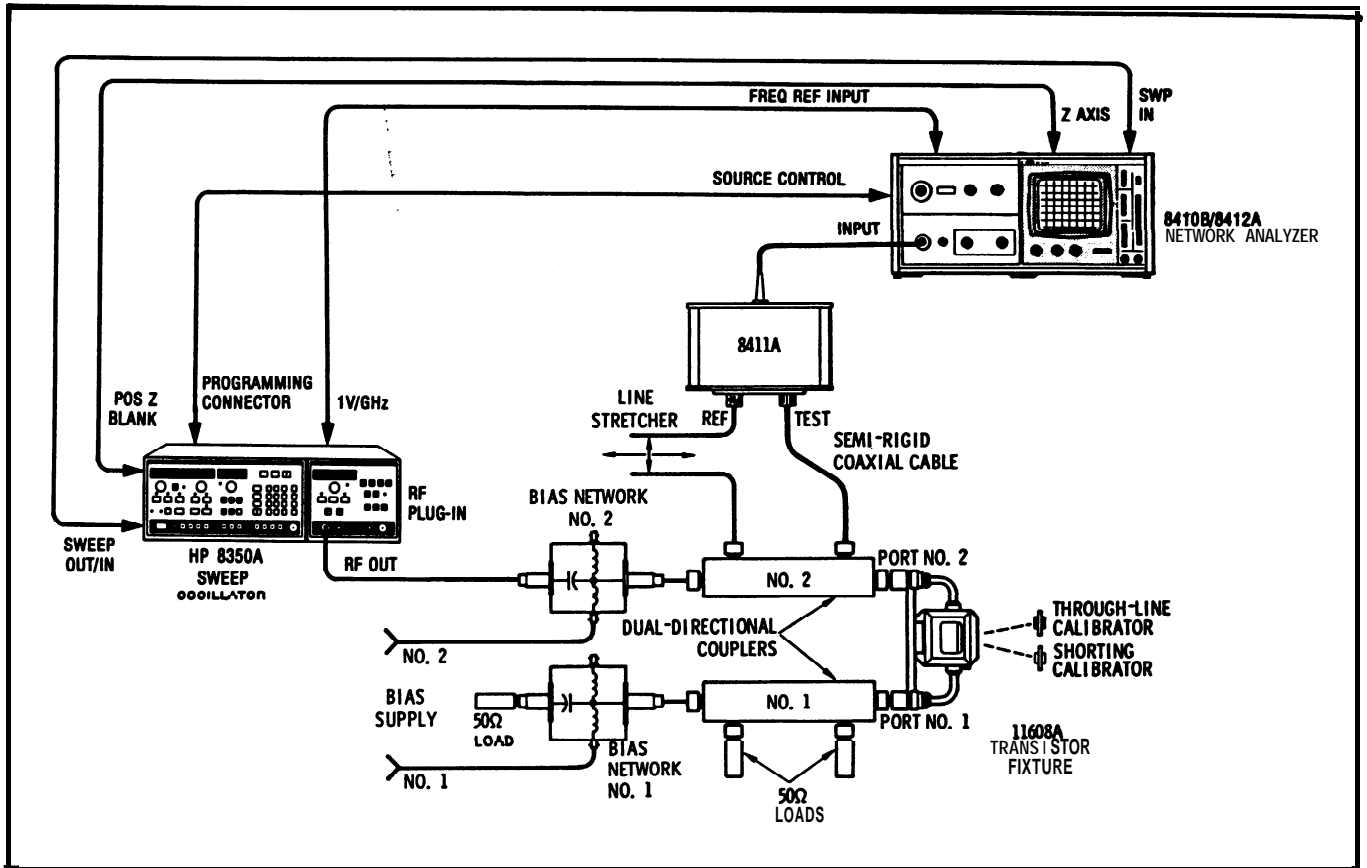
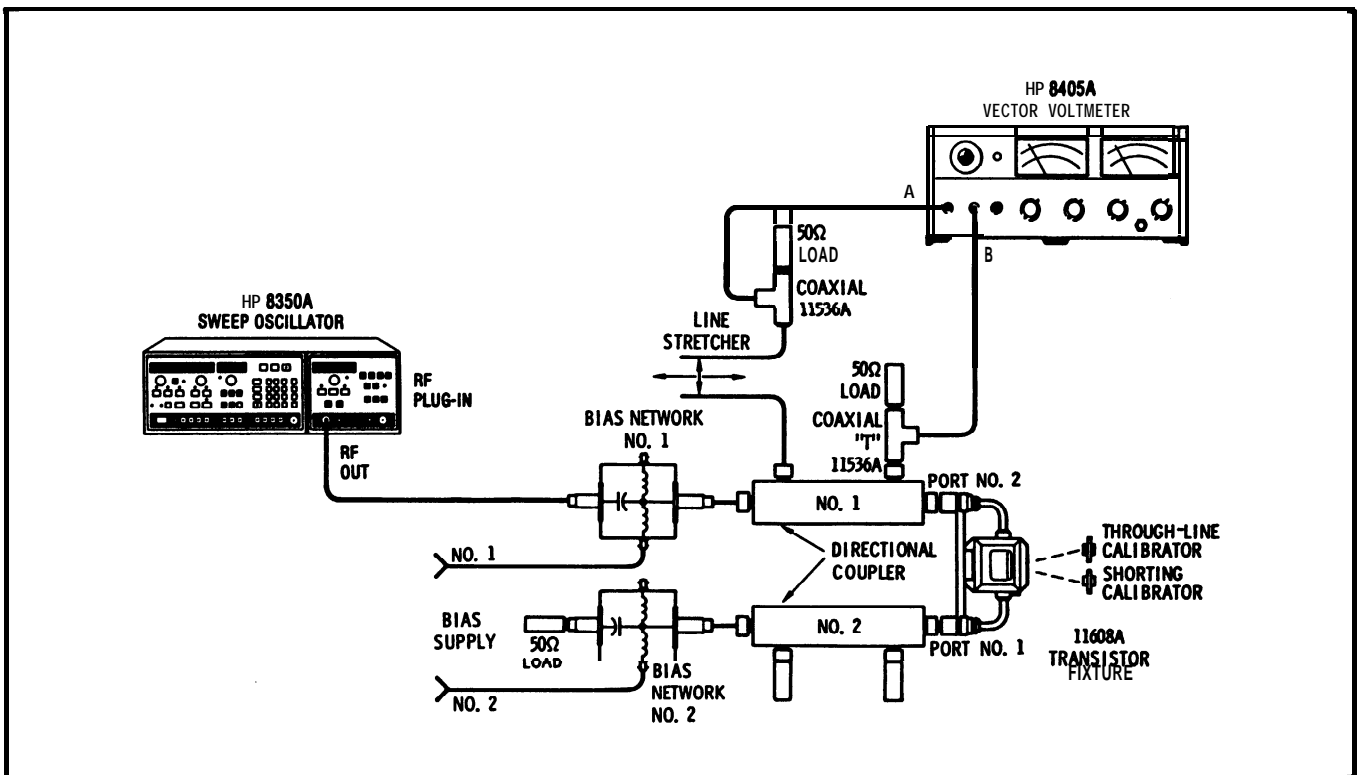
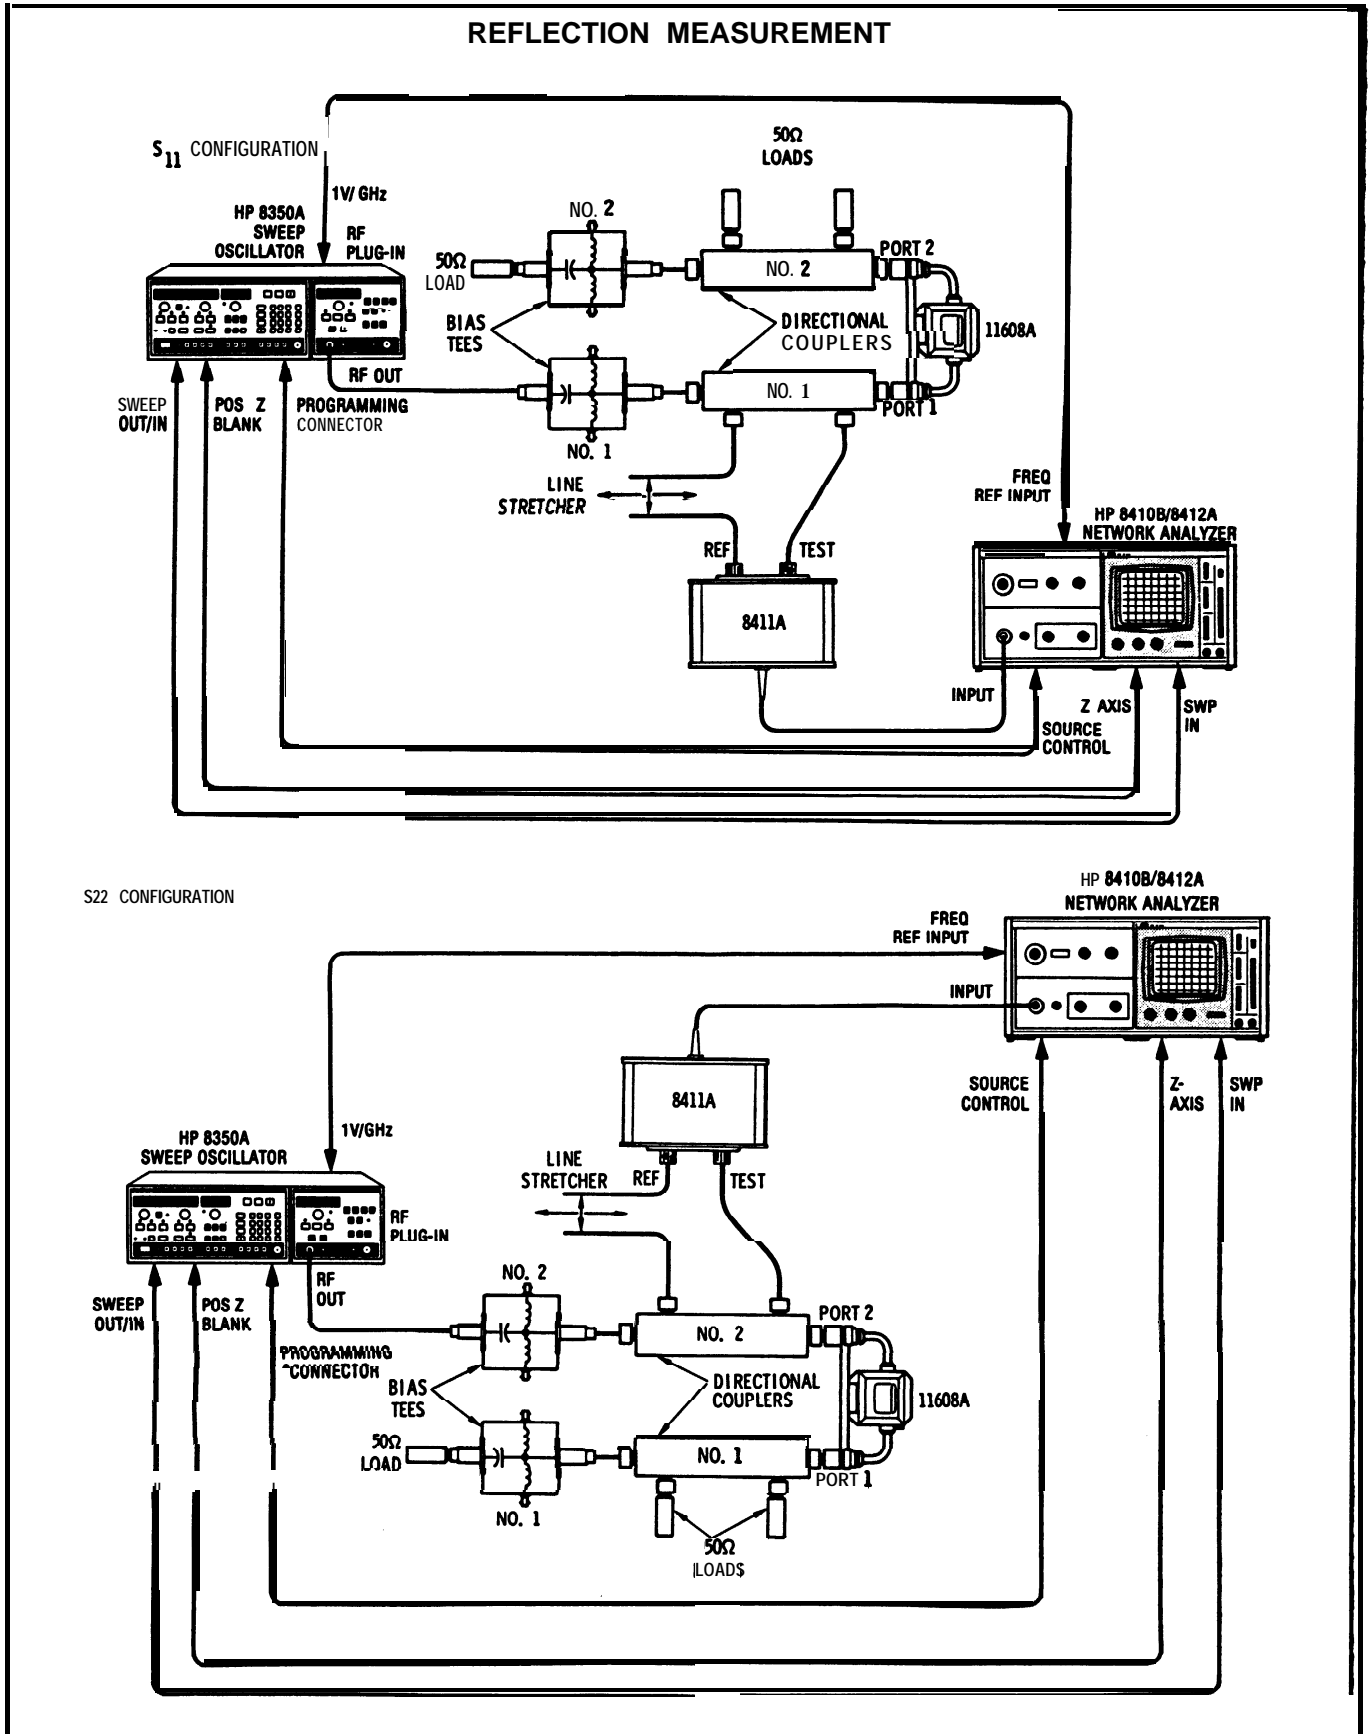

Figure 4. Block Diagram of Measurement Setup Using Model 841 OB Network Analyzer
Figure 5. Block Diagram of Measurement Setup Using Model 8405A Vector Voltmeter
Figure 6. Reflection Measurement Procedure (Sheet 1 of 2)
a. Connect the equipment as shown in Figure 4 when using a Model 8410B Network Analyzer System or in Figure 5 when using a Model 8405A Vector Voltmeter. Both figures show the **S22** configuration. For other configurations the equipment must be rearranged as shown in Figure 6 or 7.
1. Connect equipment for **S11** or **S22** as shown in Figure 6.